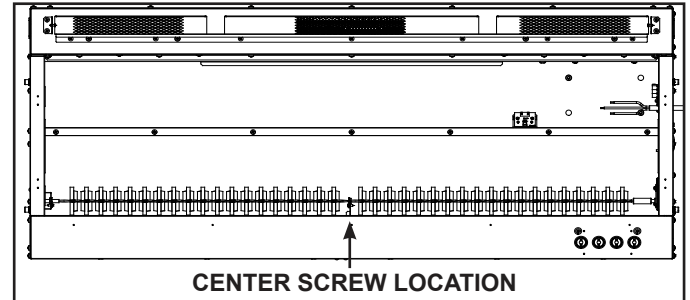

Figure 17. Rotisseire Screw Location
- Remove the center screw located in the center of the Rotisseire. See Figure 17.